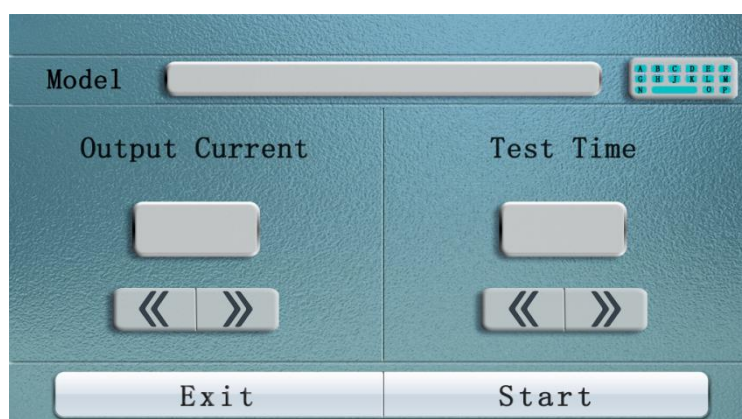

Figure 2
- 2、Press "Data test" to enter the following interface, as shown in figure 2
- 1, wiring methods: as shown in Figure 2, special test line the color red to red, black to black, the thicker current line connected with corresponding I +, I - terminal screws tightly, the thinner power line inserted into the socket V +, V -, two clamped tested on the product ends.